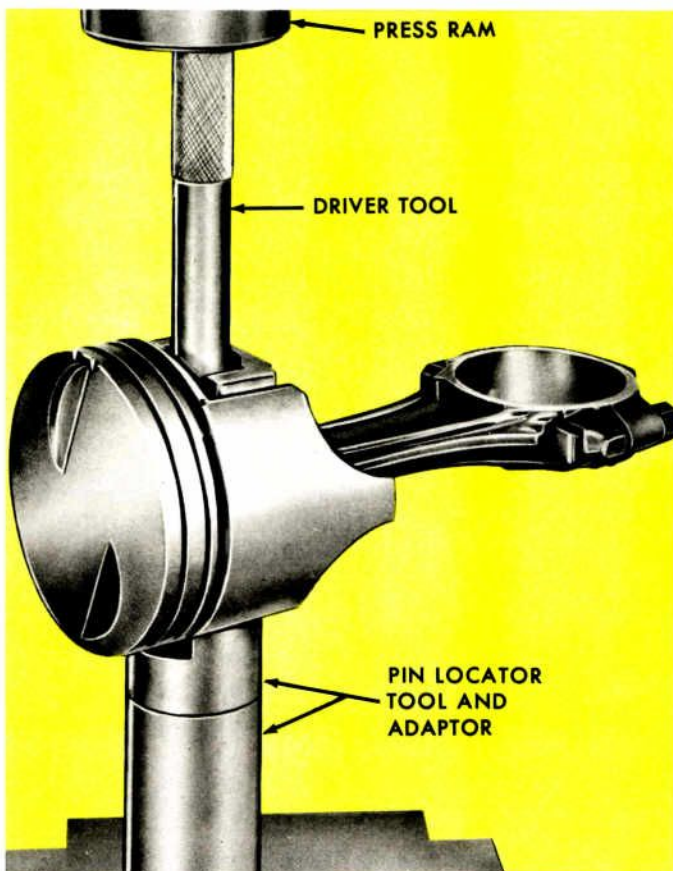

FIGURE A-12. PISTON PIN INSTALLATION
- Install the piston pin to the rod and piston; observe the specified tolerances. (See Figure A-12.)